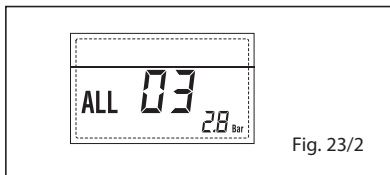

Fig. 23/2
– C.H. FLOW SENSOR ANOMALY ALARM 05 (fig. 23/4)